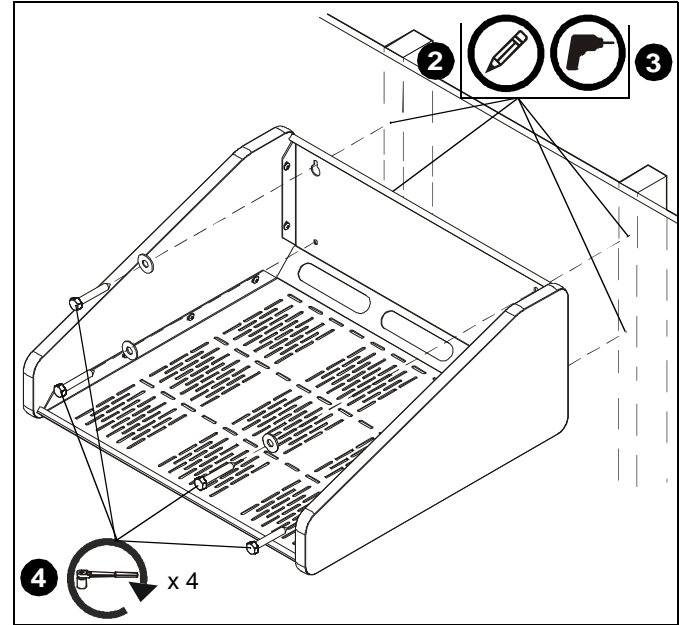

Figure 1
2. Using a level, mark the wall on two studs for the top mounting holes, and 5" below that for the lower mounting holes. (See Figure 1)
3. Drill four 7/32" (5.5mm) pilot holes at points marked in Step 2. (See Figure 1)
4. Use four 5/16 x 2-1/2" lag bolts (not included) and four 5/16" flat washers (not included) to attach shelf to wall. (See Figure 1)